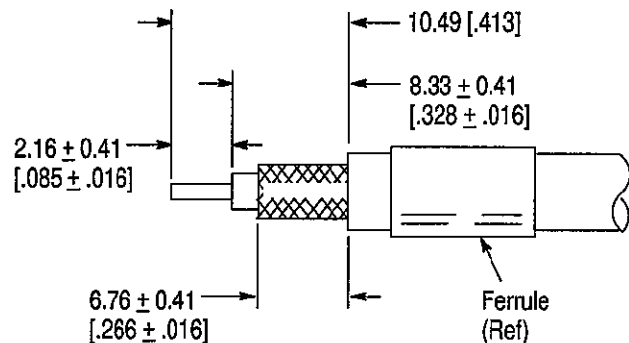

Figure 2
- Slide ferrule onto unstripped cable; then strip cable using the appropriate dimensions in Figure 2. Do NOT nick or cut cable braid. Center conductor must be straight and free of burrs.